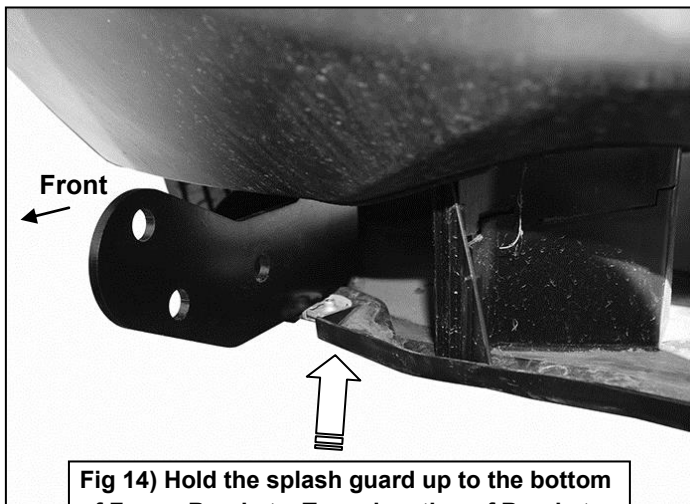

Fig 14) Hold the splash guard up to the bottom of Frame Brackets. Trace location of Brackets onto back of the plastic cover
- Hold the plastic splash guard up to the bottom of the Mounting Brackets, **(Figure 14)**. Trace the location of the Brackets onto the inside of the plastic cover. Use a sharp knife or hacksaw blade to cut out the sections from the cover, **(Figure 15)**. Reinstall the splash guard using the factory hardware.